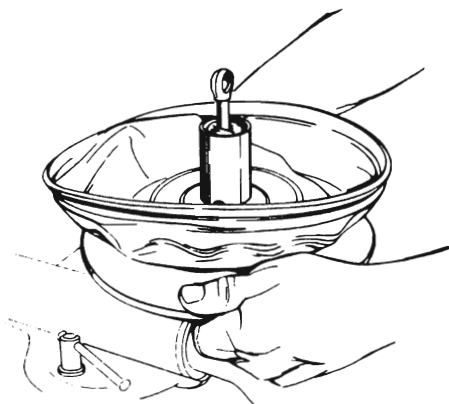

Figure 50-64 Locking or Unlocking Primary Support Plate From Primary Power Piston
11. Fold back primary diaphragm from the support plate. Grip the edge of the support plate and rotate in a counterclockwise direction to unlock the primary support plate from the primary power piston. See Figure 50-64.